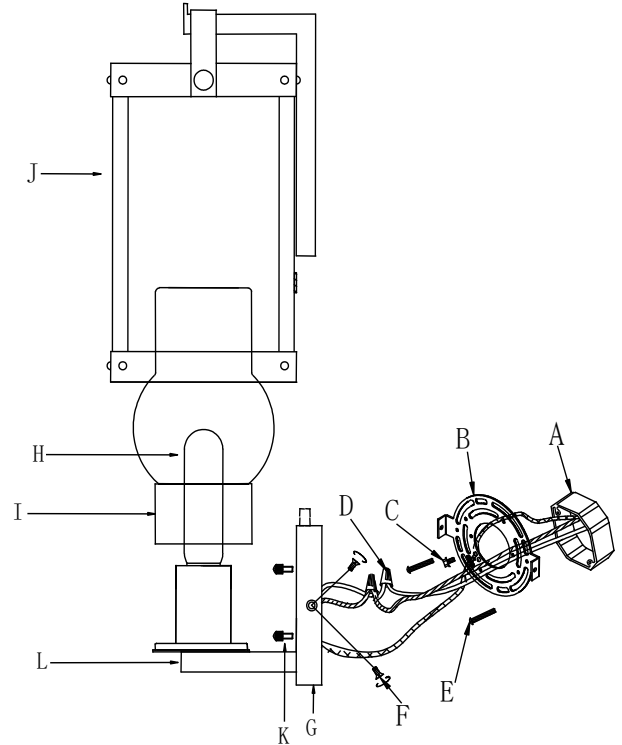

Fig.2
## CONNECTING THE WIRES (Fig. 2)
5. Connect the electrical wires as shown in Fig 2, making sure that all wire connectors are secured. If your outlet box has a ground wire (green or bare copper), connect the fixture's ground wire to it. Otherwise, connect the fixture's ground wire directly to the mounting plate (B) using the ground screw (C) provided.